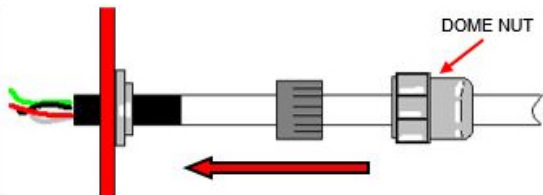

Figure 4: M5000 junction box lower cable gland
8. Slide the black cable through the upper cable gland and pull the cable forward until the shielding is covered by the grounding prongs on the gland (see Figure 4).
10. Slide the seal/grip and dome nut into position (see Figure 4). Visually confirm the shielding is in contact with the gland prongs, then tighten the dome nut to 5.2 Nm, securing the cable in place.